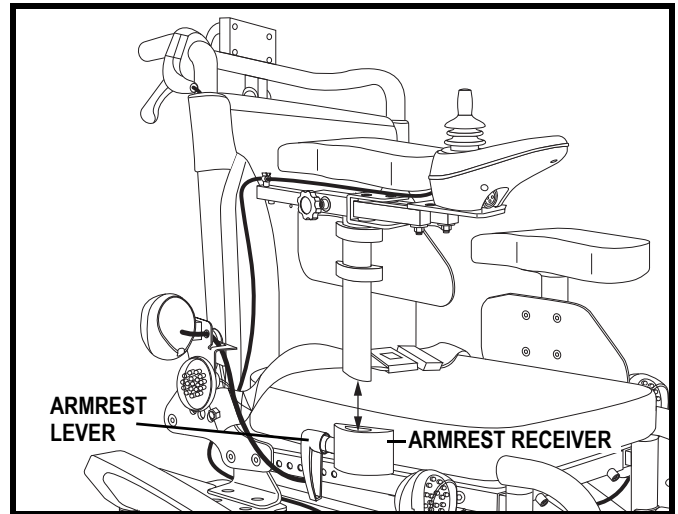

Figure 16. Armrest Removal/Installation
1. Loosen the armrest lever by pushing the armrest lever in and rotating the lever simultaneously. See **figure 16**.
1. Place the armrest assembly into the armrest receiver. See **figure 16**.
1. Loosen the armrest lever. See **figure 16**.
2. Remove the armrest. See **figure 16**.